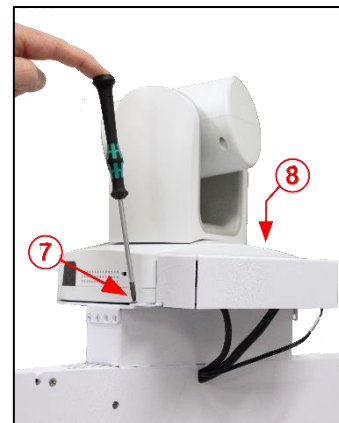

Figure 7. Attaching Cable Cover
6. Place the camera Cable Cover on the rear of the camera mounting plate and attached with the two supplied screws, one on either side (#7) and (#8), as shown in Figure.7.